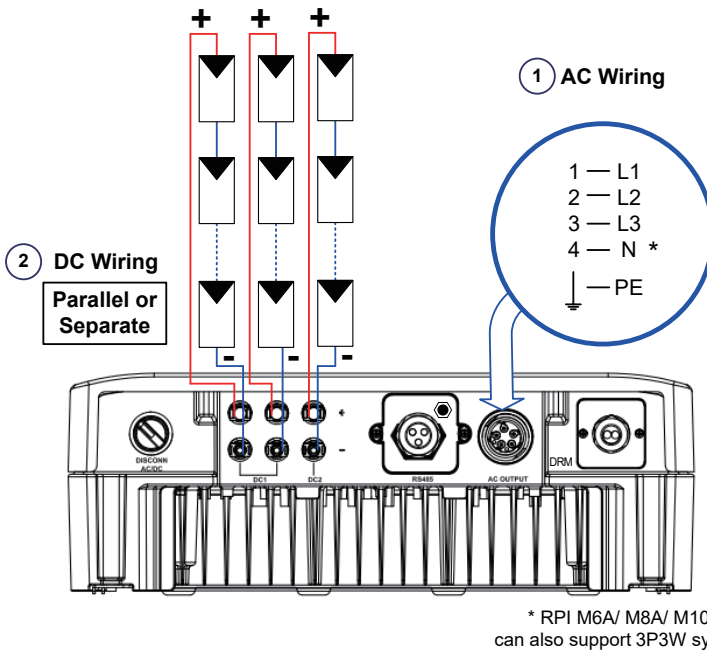

**Figure 3-6 Proper installation gap**
- Please leave an appropriate gap between floor, ceiling, and unit when installing inverter as shown in **Figure 3-6**. (There is no mandatory requirement of the gap between unit and unit.)